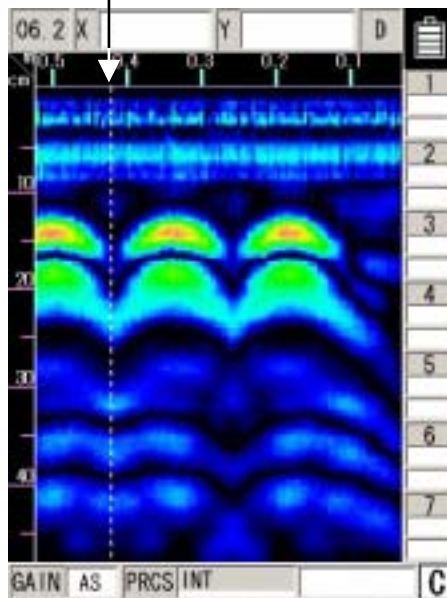

Figure 3-9 Display after real-time manual deduction processing
- The position of the fixed cursor on the B-mode display indicates the rear end of this radar, and it can be used to identify the position of the reinforcing steel being scan tested. (See Figure 3-9 for the fixed cursor.)
- d) When results for objects that are not being probed overlap with the fixed cursor position, push **[5]** **Enter**. (See Figure 3-9.)